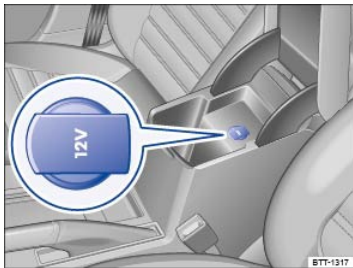

Fig. 110 12 Volt socket in the front center armrest.
- In the storage compartment in the front center armrest ⇒ Fig. 110.